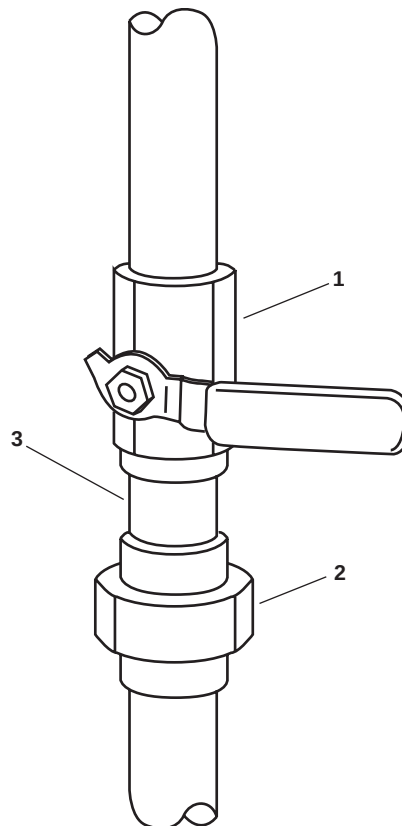

Figure 2. Typical Ball Valve (Threaded)
1. Place a suitable drain pan under the ball valve (figure 2, item 1).
2. Slowly loosen, but do not disconnect, the union (figure 2, item 2) connecting the vessel's piping to the valve (figure 2, item 1).
3. Permit any pressure to vent and any fluid to drain from the union (figure 2, item 2) into the suitable drain pan. After the lube oil stops draining, disconnect the union.
4. Disconnect the opposite end of the valve (figure 2, item 1) and remove it from the vessel's piping.
5. Remove the nipple (figure 2, item 3) from the valve (figure 2, item 1).
1. Using a wire brush and dry cleaning solvent, clean the female threaded end of the valve (figure 2, item 1) and the male threaded end of vessel's piping.
2. Using a wire brush and dry cleaning solvent, clean the male threaded end of the nipple (figure 2, item 3).
3. Apply antiseizing tape to the male threaded end of the nipple (figure 2, item 3) and install the nipple into the valve (figure 2, item 1).
4. Apply antiseizing tape to the male threaded end of the vessel's piping. Do not apply antiseizing tape to the union (figure 2, item 2) or its threads.
5. Install the valve (figure 2, item 1) in the vessel's piping.
6. Connect the union (figure 2, items 2) onto the vessel's piping.
7. Tighten the union (figure 2, item 2) securely.